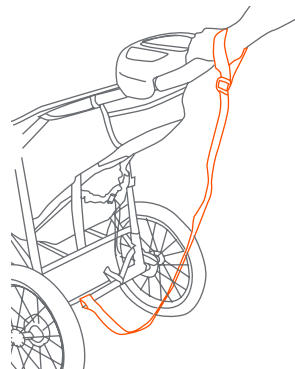

Fig. 17a
- **SAFETY WRIST STRAP:** Always connect the safety strap to either wrist when jogging. This strap will keep the stroller from rolling away in the event that you trip while running (Fig. 17a). The safety strap must remain connected to the rear lower frame cross member at all times. This